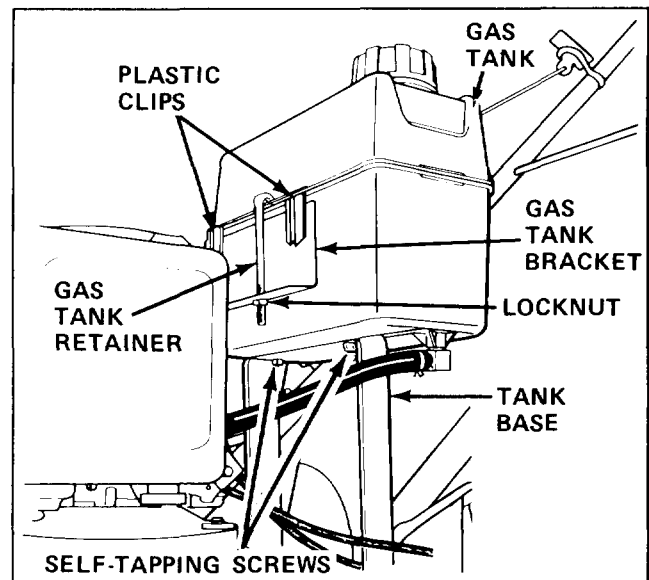

Figure 2
1. Start self-tapping screws (Fig. 2) into bottom of gas tank and then remove screws.
2. Hook the plastic clips on the rear of the gas tank onto the gas tank bracket (Fig. 2).
3. Secure gas tank to tank base with the (2) self-tapping screws (Fig. 2). Do not overtighten screws.
4. Hook gas tank retainer onto gas tank and slide end of retainer into hole in tank bracket. Secure retainer to tank bracket with locknut (Fig. 2). Do not overtighten locknut.